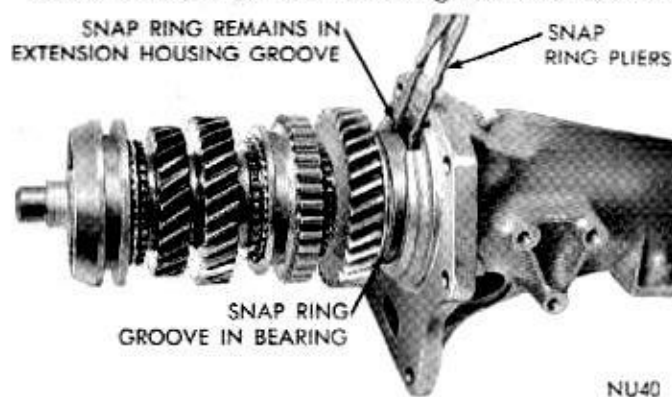

Fig. 22—Removing or Installing Mainshaft (Heavy Duty Model)
(8) Holding snap ring compressed, pull mainshaft assembly and bearing out of extension housing (Fig. 21). **HEAVY DUTY MODEL** (Fig. 22) has snap ring in outer race of bearing. Use snap ring pliers to expand and hold this ring while removing mainshaft and bearing from extension housing.